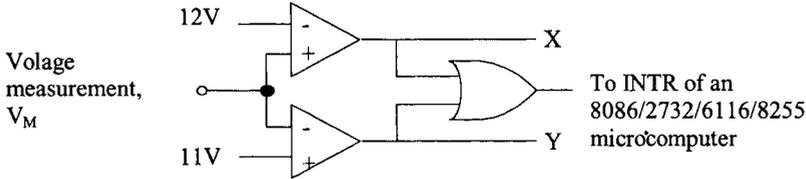

FIGURE P9.29
9.29 In Figure P9.29, if $V_M > 12\text{ V}$, turn the LED ON connected at bit 4 of port A. On the other hand, if $V_M < 11\text{ V}$, turn the LED OFF. Use ports, registers, and memory locations of your choice. Draw a hardware block diagram showing the microcomputer and the connections of the figure to its ports. Write a service routine in 8086 assembly language. Assume all segment registers are already initialized. The service routine should be written as CS=1000H, IP=2000H. The main program will initialize SP to 2050H, initialize ports, and wait for interrupts.